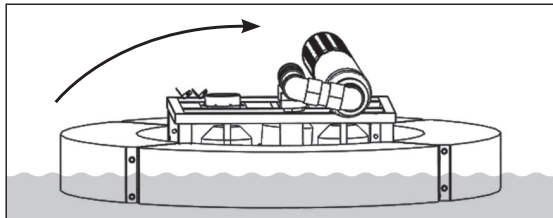

Fig.3
- Using heavy equipment (lull, crane, etc.), or sufficient manpower; slowly begin to tilt fountain with these precautions: (Fig.3)